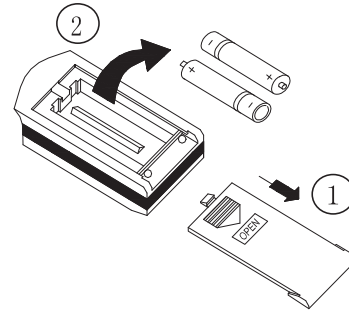

Fig.1
1. Slightly to press the place with  along the arrowhead direction to push the back cover of remote controller. (As show in Fig 1. )